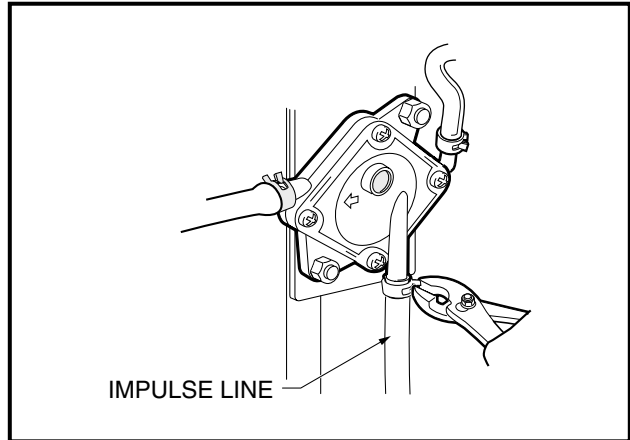

Figure 16a-12 Impulse Line
- 5.5.5. Remove wire tie (6) securing the cable to the vertical support (**Figure 16a-117, Page 16a-54**).